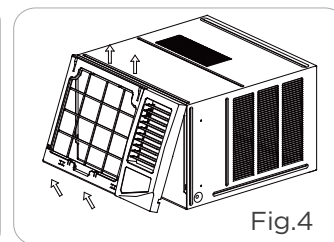

Fig.4
2. Disconnect the coupler plugs and make sure not to interfere with the temperature sensor cable. Hold the left bottom side of the frame, lift it up to unlatch the lower side, remove it toward you( See Fig. 4)